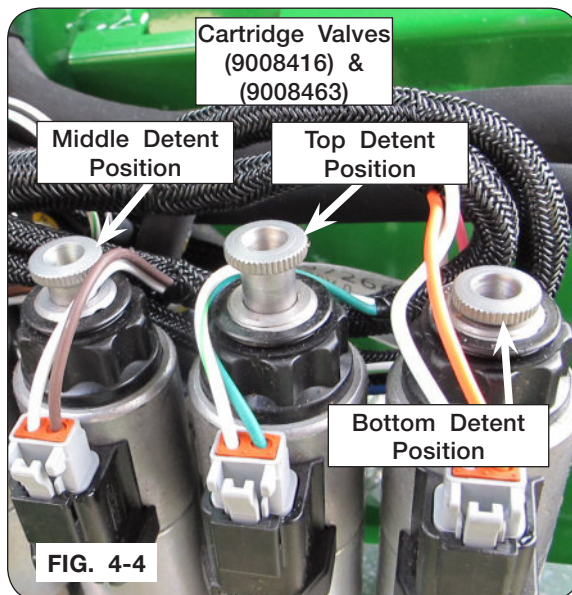

FIG. 4-4
NOTE: Only one cartridge valve (9008416 & 9008463) may be in the top or bottom detent position at a time to function properly. All other valves must be in the middle detent position. (Figs. 4-4 & 4-5)
5. Operate the desired function on valve (9008416 & 9008463) by rotating the manual override knurled knob from the locked neutral position. (Figs. 4-4, 4-5, & 4-7)
8. Return knurled knob to center and lock valve (9008416) & (9008463) in position. (Figs. 4-4, 4-5, & 4-7)